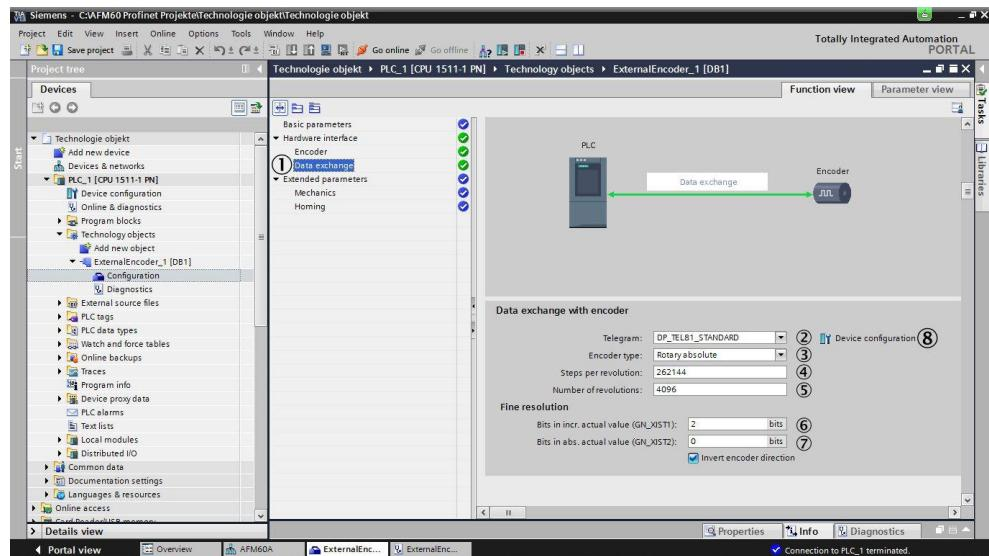

Figure 25: Data exchange
- ▶ Click **Parameter Access Point** (1), **Properties** (2) and then **Module parameters** (3).
- ▶ In the **Encoder Profile V3 Compatibility** field (4), choose the following options:
- ▶ The value in the **Measuring Units per Revolution LSDW** field (5) must be the same as the value in the **Steps per revolution** field in **Data exchange** (see Figure 25 on page 52).
- ▶ The value in the **Total Measuring Range LSDW** field (6) must be the same as the product of the value in the **Steps per revolution** and the **Number of revolutions** field in **Data exchange** (see Figure 25 on page 52).